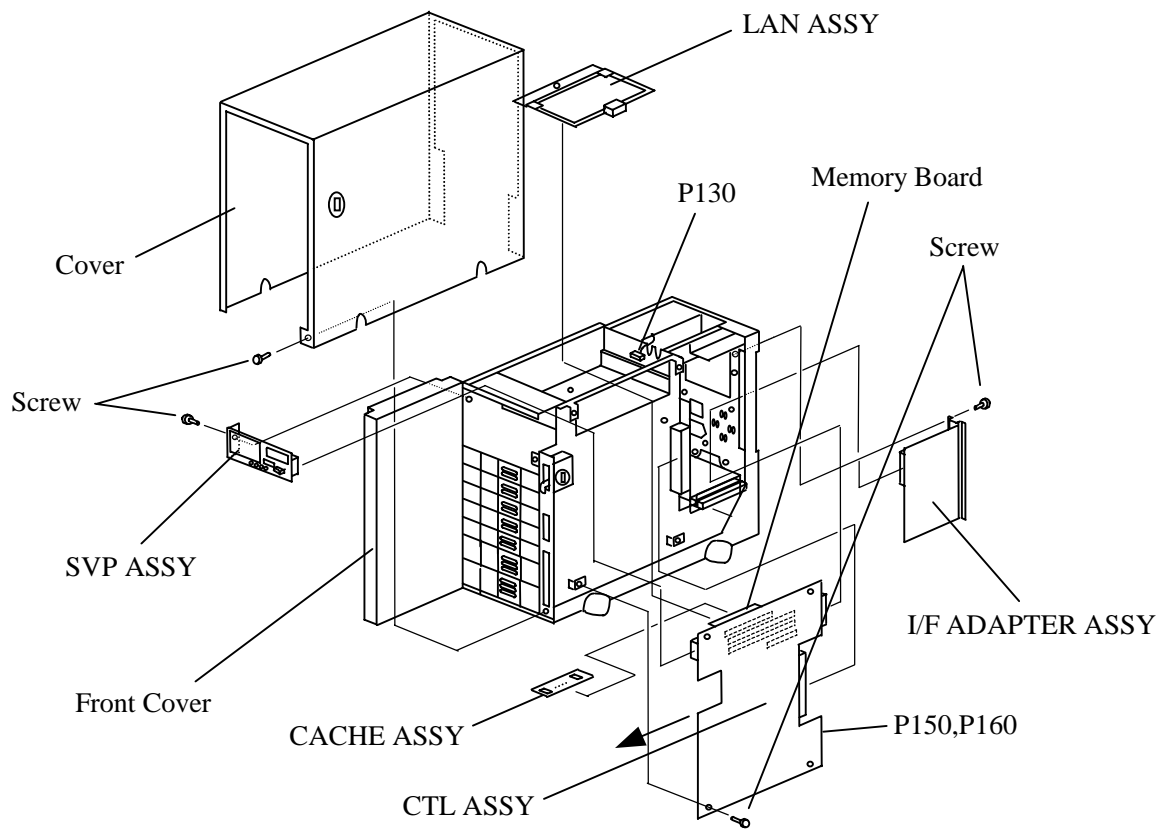

Figure 8. Replacement CTL ASSY
8. Replacing the CTL ASSY (See Figure 8.)